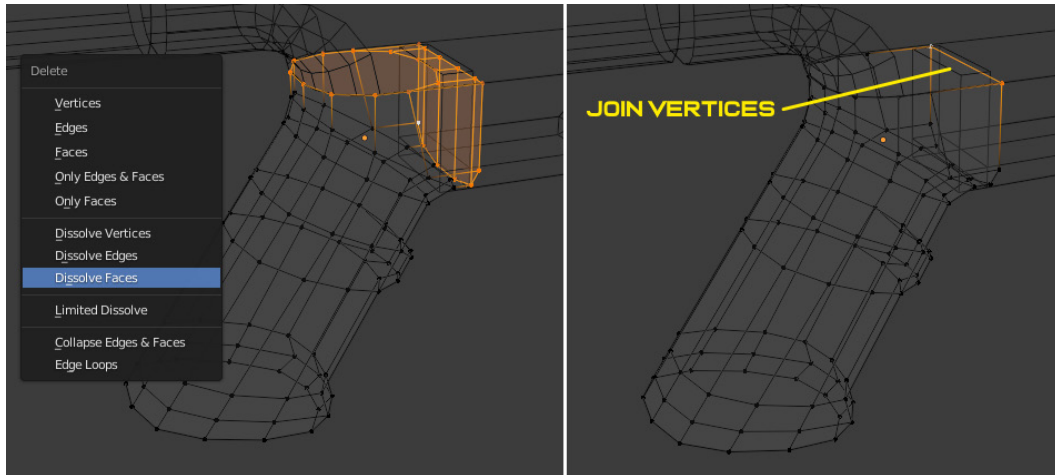

Figure 3.8 – Dissolving faces (left), joining vertices (right)
6. Select the flat surfaces at the top and front of the upper section like in *Figure 3.8* (left), then dissolve the faces. This will create a bent n-gon. Since we need every face to be flat, we will correct that and turn it into two flat n-gons by taking the two corner vertices and joining them together with an edge by pressing *J*.